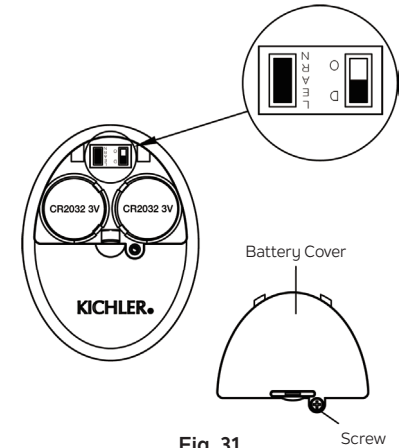

Fig. 31
**Warm Weather Operation:** Forward (counter clockwise). A downward airflow creates a cooling effect (Fig. 31). This allows you to set your air conditioner on a warmer setting without affecting your general comfort.